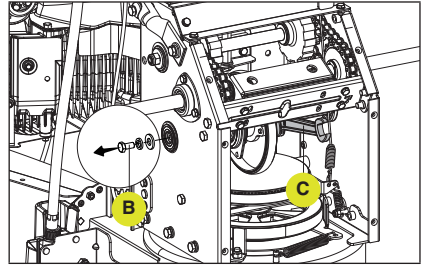

Figure 67
4. Carefully remove the M8 hex bolt (B) on the left side which secures the hex shaft and chain gear shaft to the snowblower frame. Use a 22 mm or adjustable wrench (C) to hold the center of the hex shaft and use a 13 mm socket to remove the bolt on the left side. (Fig. 67)